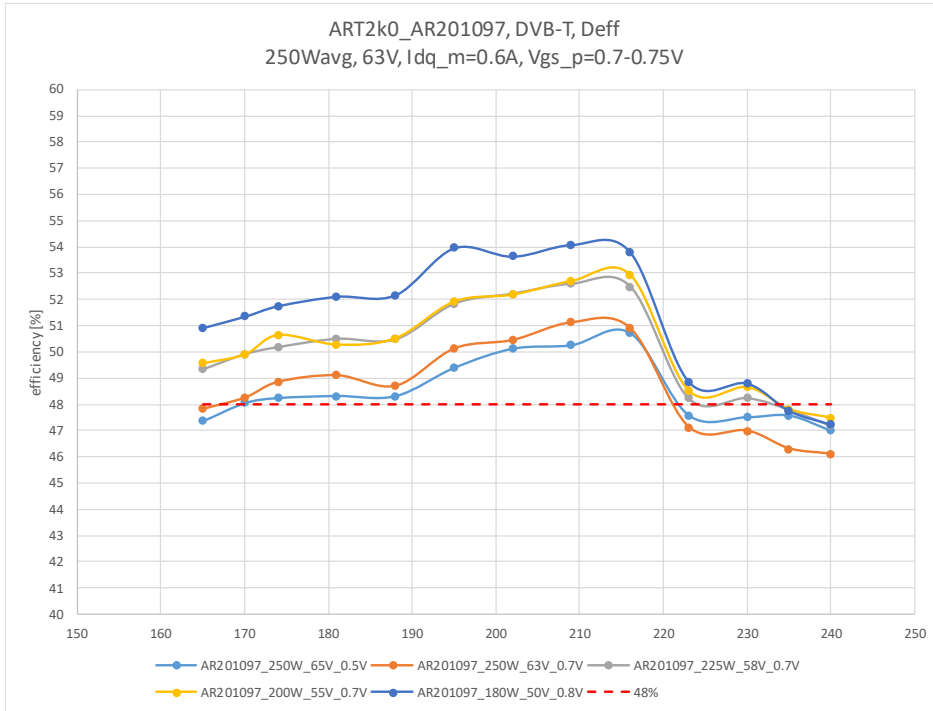

Figure 2 DVB-T, (Drain) efficiency (uncorrected) Vdd=50 – 65V
- 3. List of figures 2
- Figure 2 DVB-T, (Drain) efficiency (uncorrected) Vdd=50 – 65V 6